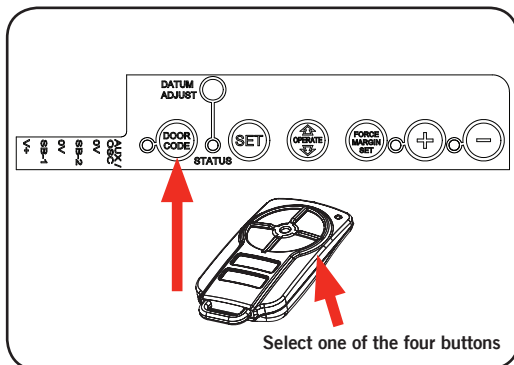

Fig.26
Step 13.2 - Setting the Transmitter to Operate the Courtesy Light (Fig.26)